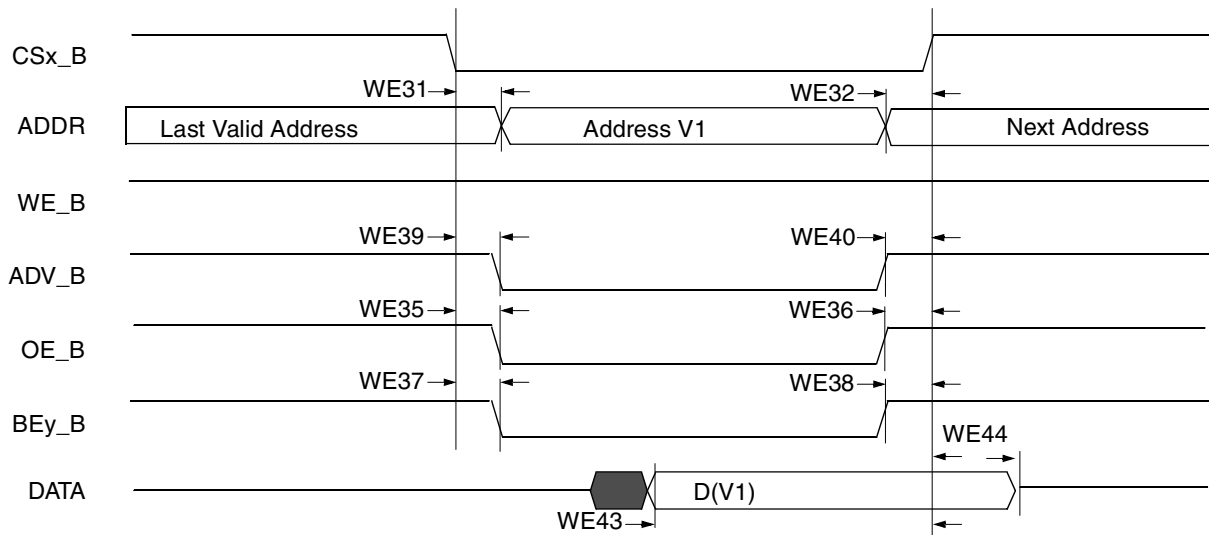
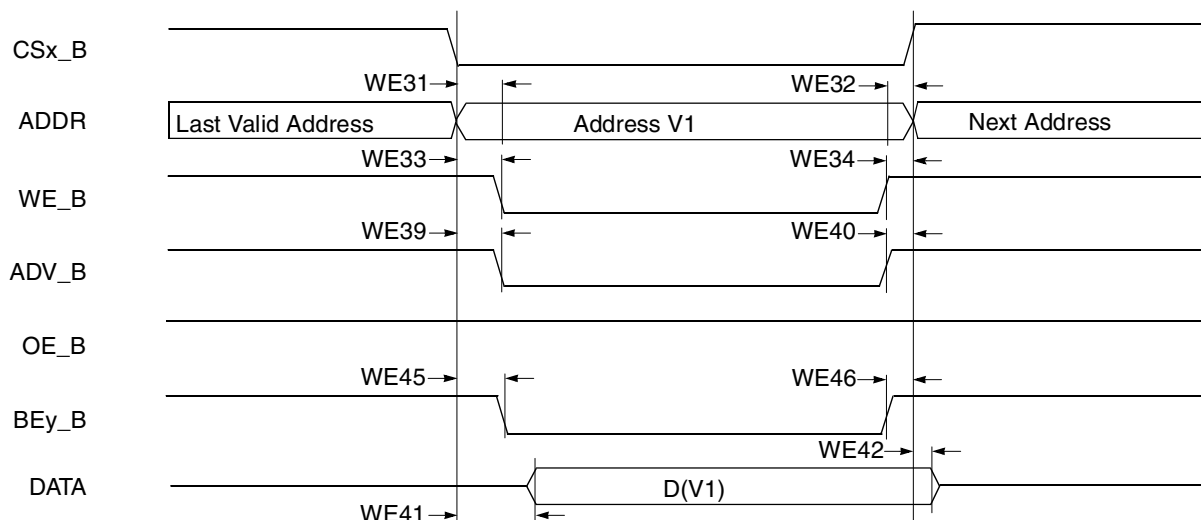
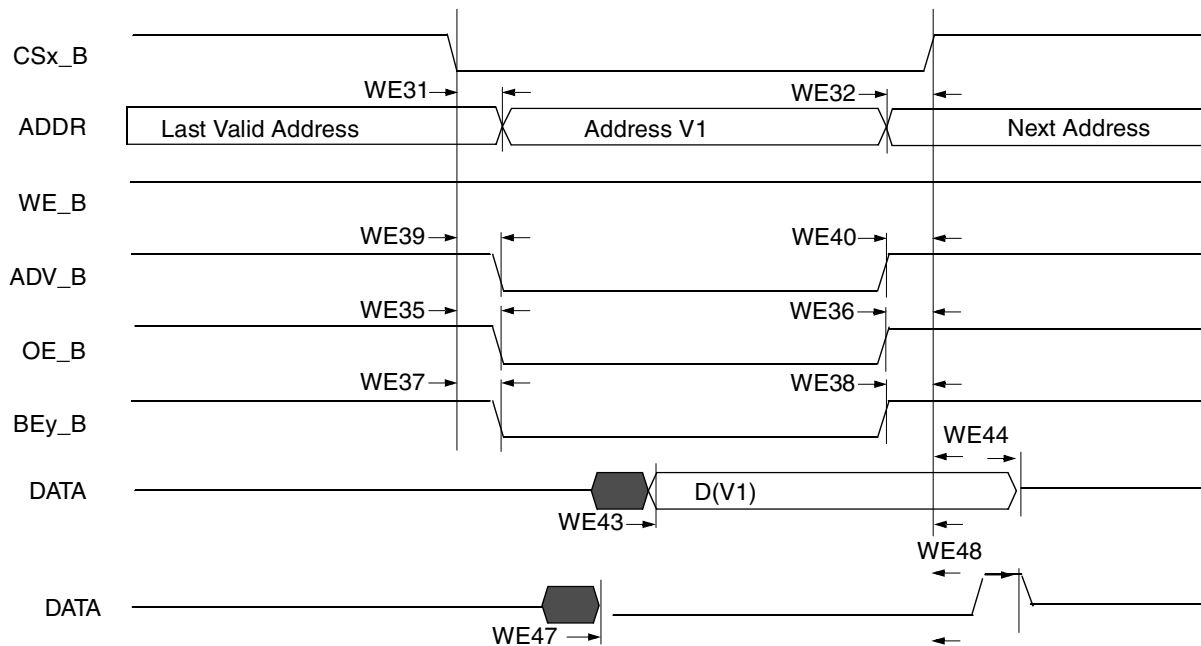

Figure 28. Asynchronous Memory Read Access
Figure 29. Asynchronous Memory Write Access
Figure 30. DTACK Read Access
The Figure 28, Figure 29, Figure 30, and Table 53 help to determine timing parameters relative chip select (CS) state for asynchronous and DTACK WEIM accesses with corresponding WEIM bit fields and the timing parameters mentioned above.